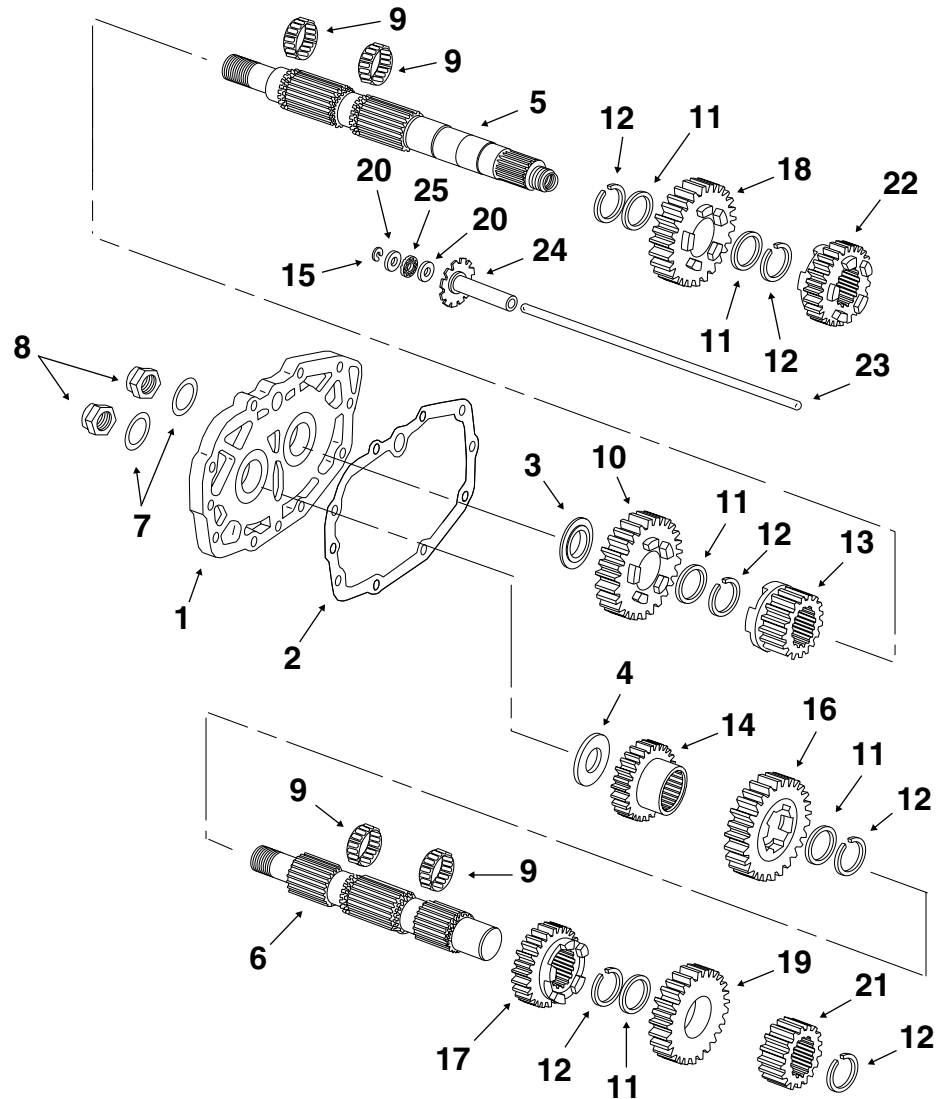

Figure 7-25. Side Door, Mainshaft and Countershaft Assembly (Exploded View)
5. See Figure 7-25. Slide the spacers onto the shafts with the tapered side facing the side door end. Note that the mainshaft spacer has a shoulder while the countershaft spacer does not.